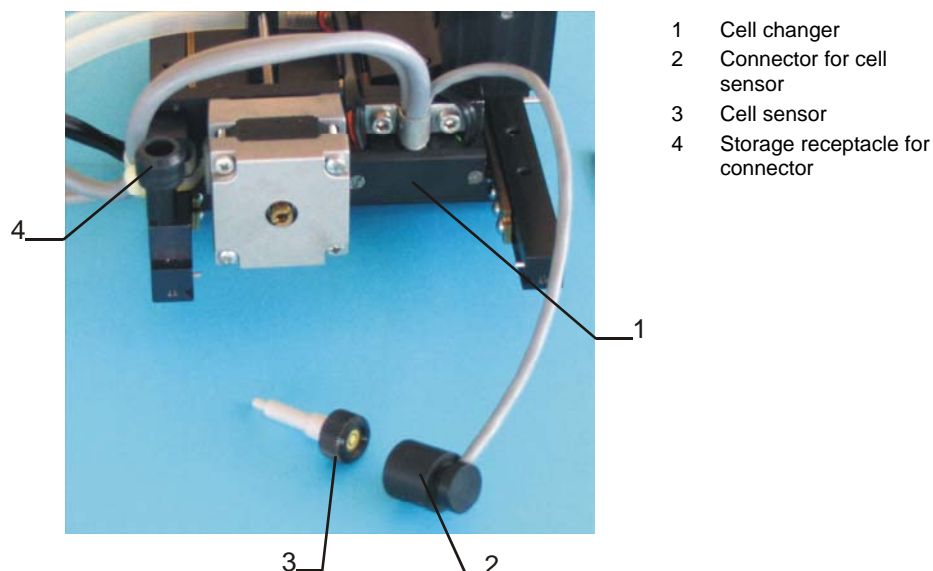

Fig. 13-11 Cell measuring sensor for the Peltier temperature-controlled 6-cell changer
1. Close a standard cell with round stopper with the supplied cell measuring sensor (Fig. 13-11 / 3) in place of the standard stopper.
2. Put the cell onto any desired position. Take the connector (Fig. 13-11 / 2) from the storage receptacle (Fig. 13-11 / 4) and plug the connector onto the cell measuring sensor.